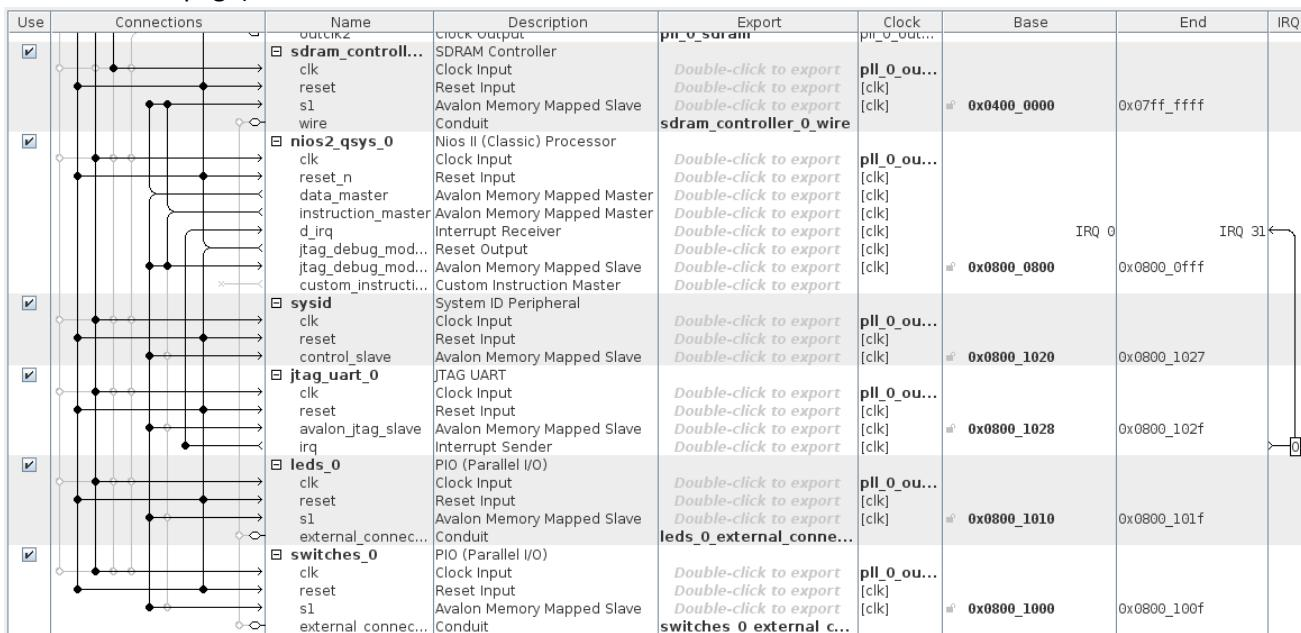

Figure 8-4. Adding LEDs and Switches to the System
13. Connect the system as shown in Figure 8-4 below (we don't show the full system to make figures hold on one page):